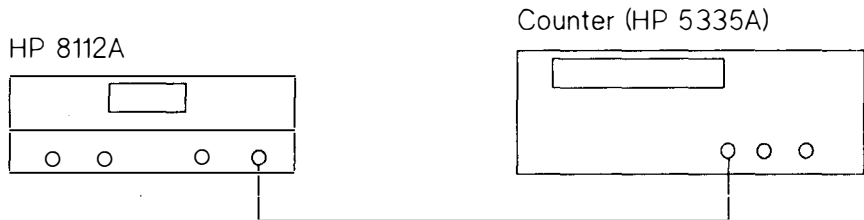

Figure 8-6. Pulse Width Performance Test
5. Connect the HP 8112A and counter as shown in Figure 8-6.